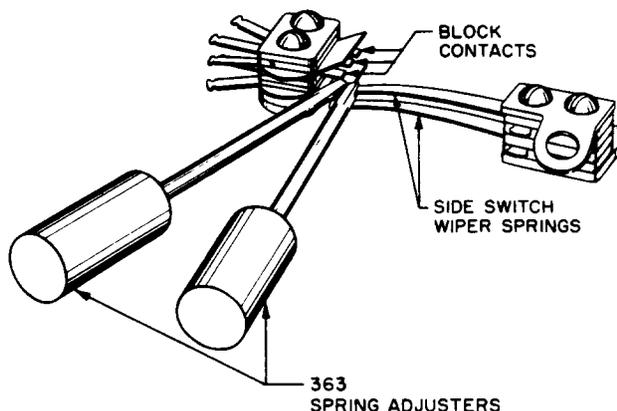

Fig. 9 - Method of Adjusting the Side Switch Wiper Tips
(2) Where a spring is bowed, place the 415A spring adjuster at the far end of the bow and adjust the spring slightly in the opposite direction to the bow and then while applying only enough pressure to hold the spring just off its block contact, draw the adjuster forward the length of the bow, pausing momentarily at each 1/16 inch of the spring to apply a slightly greater pressure than the drawing pressure in a direction opposite the bow. If the spring is bent, follow the same procedure as covered for a bowed spring except that it will only be necessary to adjust the spring from approximately 1/4 inch beyond the bend to approximately 1/4 inch in front of the bend.
(3) If a wiper does not make a knife edge contact on the block contacts, or if the form of the wiper tip requires adjustment, hold the wiper at the base of the tip of the wiper with a 363 spring adjuster and adjust the tip of the spring with another 363 spring adjuster as shown in Fig. 9.